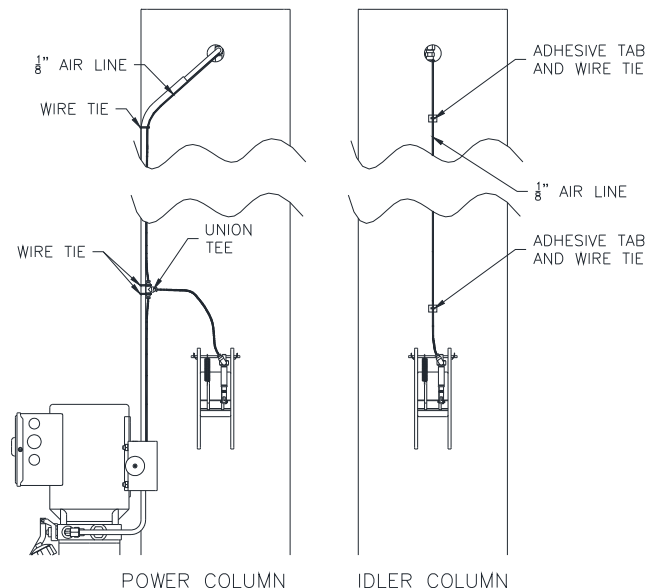

Fig. 14-Lock Release
- 25) On the Power Column, attach the 1/8" air line from the lock release air cylinder to the push-lock tee fitting. Run another section of 1/8" air line from the button valve to the tee (**Fig. 14**).
- 26) Connect the rest of the 1/8" air line to the top of the tee and run it up the column attaching it to the hydraulic line using wire ties (**Fig. 14**).
- 27) After running the 1/8" air line along the hydraulic line in the overhead and out the other opening in the Idler Column (**Fig. 14**), run the air line down the column using adhesive tab and wire ties. Attach it to the lock release air cylinder (**Fig. 14**).